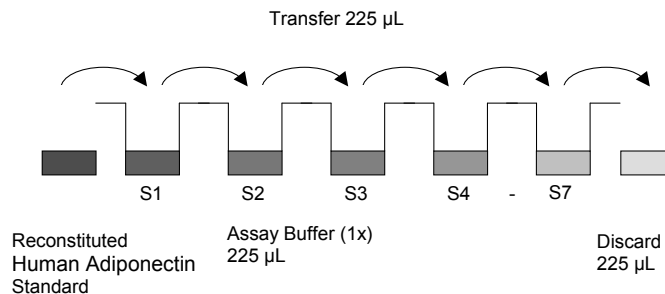

Fig. 6 Dilute standards - tubes.
5. Repeat serial dilutions five more times thus creating the points of the standard curve (see Figure 6).